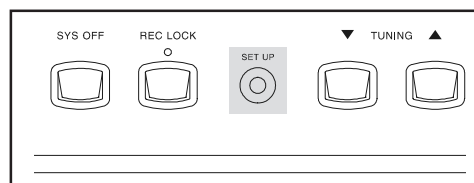

Figure 4
2. Press and hold the MX132 Front Panel Setup pushbutton approximately three seconds to enter the Setup Mode. The SETUP pushbutton will illuminate, the word SETUP will appear on the front panel display and the MAIN SYSTEM SETUP Menu will appear on the Monitor/TV screen. Refer to Figures 4, 5 & 6.